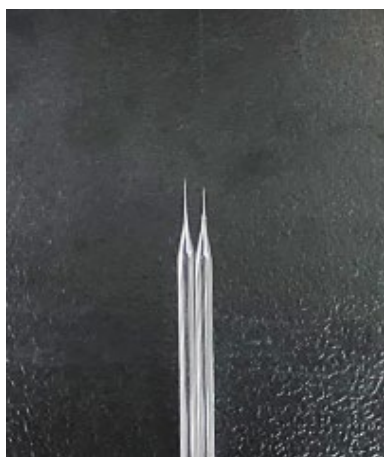
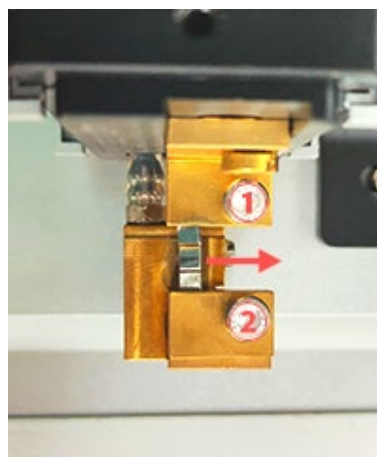

Figure 6-13
Figure 6-14
14) Align the tips of the left and right micropipettes side by side and compare their lengths from tip to shoulder. If the left taper is longer, as shown in Figure 6-13, please loosen the screws ① and ②, and slightly move the filament as indicated by the arrow shown in Fig.6-14.